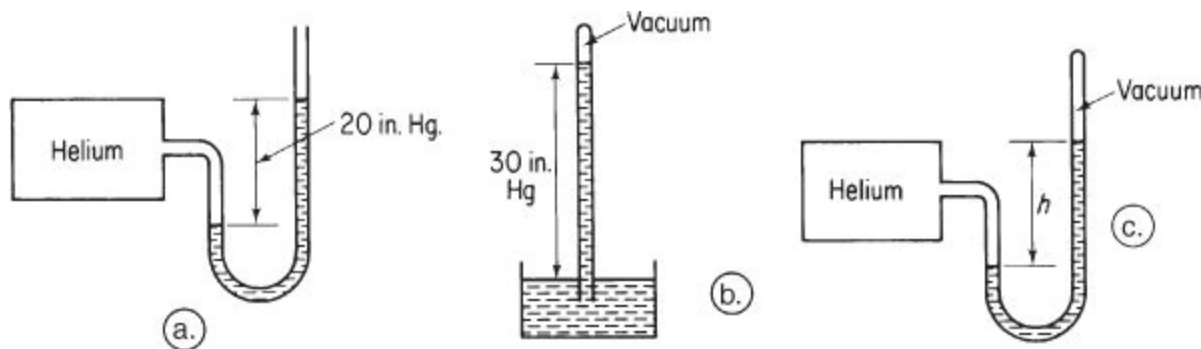

Figure SAT2.11P2
- a. What kind of pressure is measured in Figure SAT2.11P2A?
- b. In Figure SAT2.11P2B?